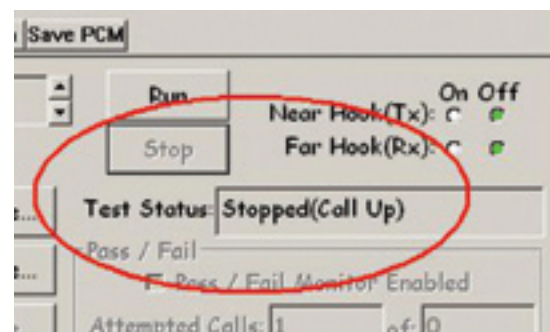

Figure 43
1. From the PCM 2, Channel 1 window that is running the Send/Measure Tone responder test press the stop button. Notice that while the test has stopped the call is still up as indicated in the Test Status field (see close-up figure 43).